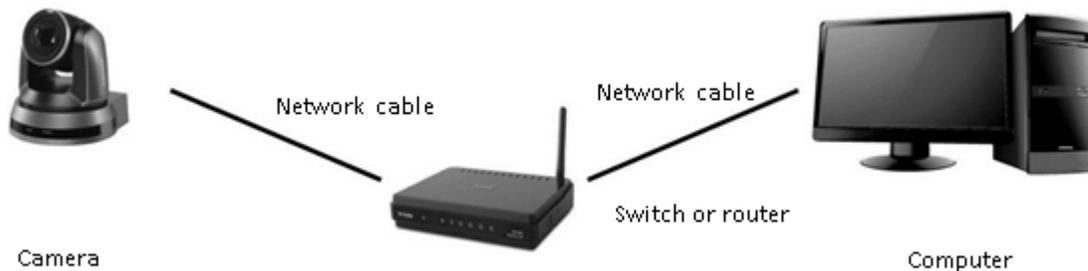

Figure 20 - Connecting over an IP Network
1. Connect a network cable between the camera and the network switch or router (Figure 20).